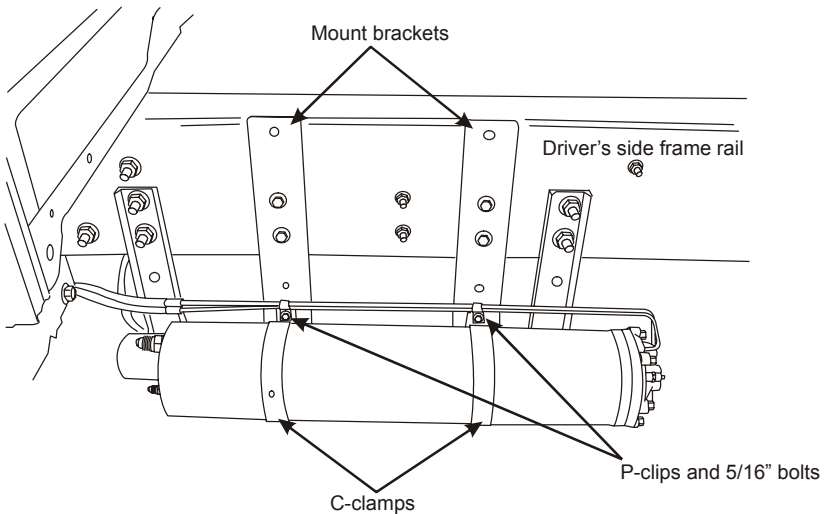

Figure 2.1
- Remove the two 1/2 inch bolts on the drivers side that fasten the front of the brake relay valve to the inside of the frame and mount the bracket stamped “FRONT” in this position with the M12 x 45 bolts, washers and nuts (Figure 2.1).